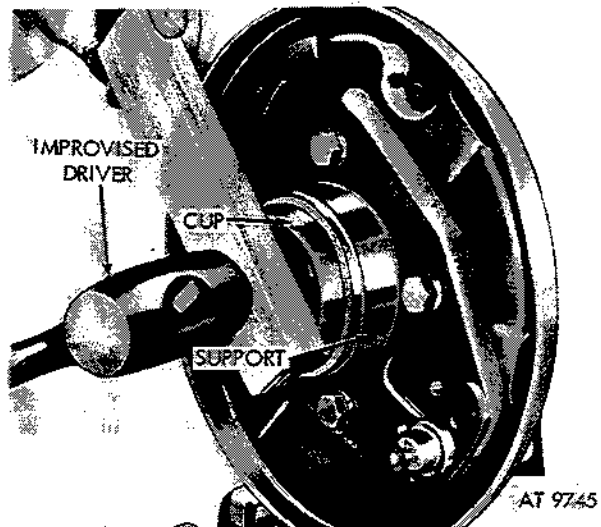
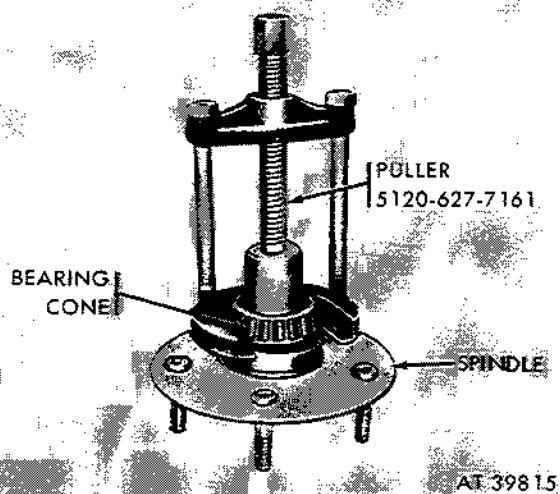
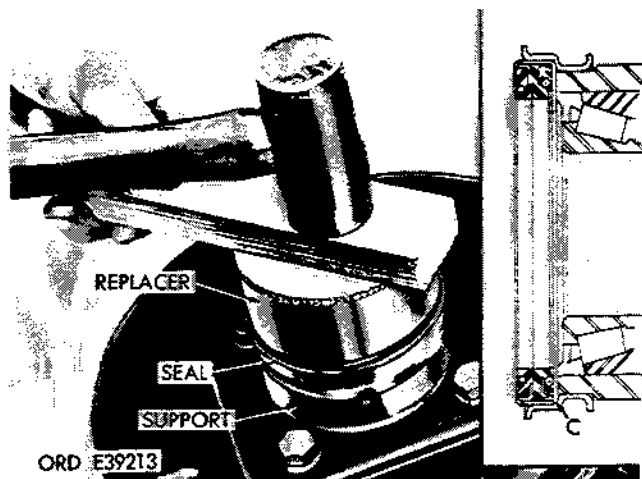

Figure 2-320. Bearing cup in position using improvised driver.
Figure 2-319. Remove outer bearing using puller 5120-627-7161.
Figure 2-321. Install seal using replacer 5120-795-0152.
- (3) Remove outer bearing cone from spindle using puller 5120-627-7161 (fig. 2-319).
b. Installation. Pack lips of seal with grease (GAA), and coat sealing surface of support with sealing compound (FSN 8030-656-1426). Install wheel bearing outer seal, cup, and bearing as given in operations (1) through (5) below.
(1) Start bearing cup in support bore and seat in position with improvised driver (fig. 2-320).
(2) Coat entire inside of support bearing bore with one-sixteenth layer of grease (GAA). To prevent rust, coat inside of bore between the bearings with one-sixteenth inch layer of grease (GAA).
(3) Install seal on support using replacer special tool 5120-795-0152 (fig. 2-321).
(5) Seat seal in support using replacer 5120-795-0152 (fig. 2-321).
(6) Install support (para 2-140), drive flange (para 2-139), and spindle (para 2-138).